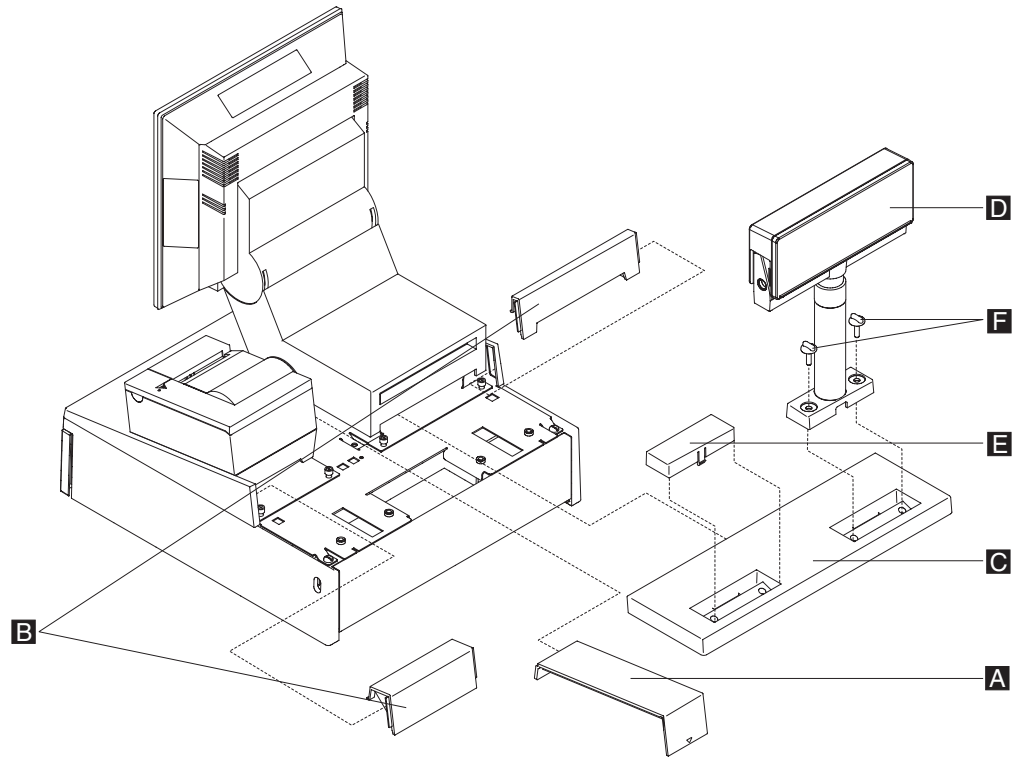

Figure 33. Removing rear modesty cover and distributed character display
- a. Remove the rear modesty cover **C** as shown in Figure 33 (together with the distributed character display **D**, if one is installed) and set it aside. It is not necessary to disconnect the cable from the display.